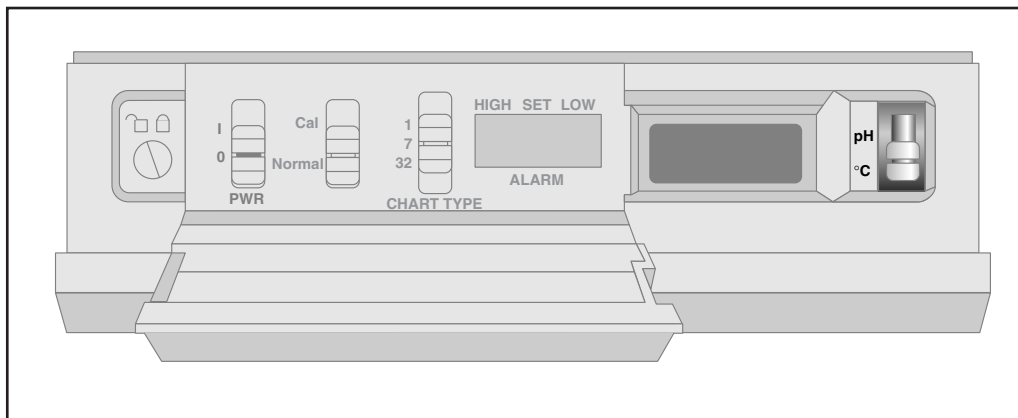

Figure 3-8. Display Selector Switch
After the pH and temperature codes appear, the LCD displays the current fluid temperature in °C or the fluid pH, depending on the position of the display selection switch (refer to Figure 3-8).
1. Set the display selection switch (Figure 1-1, item #12) to pH or °C, depending on the parameter for which you would like to set the alarm limits. Refer to Figure 3-8 for the location of the switch.